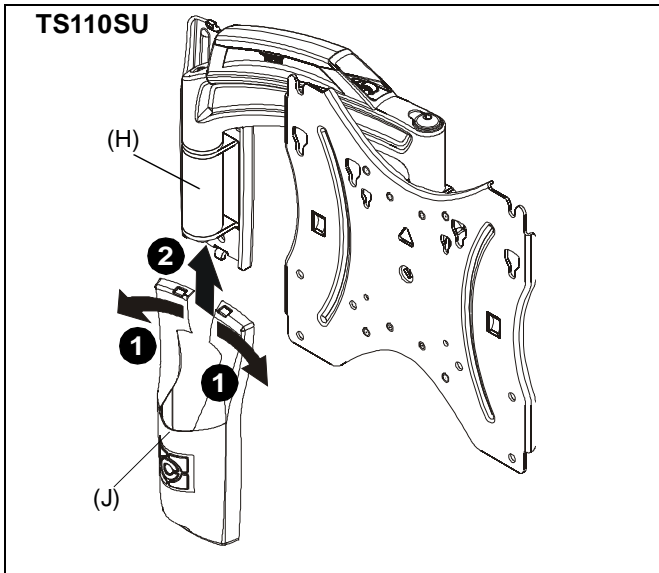
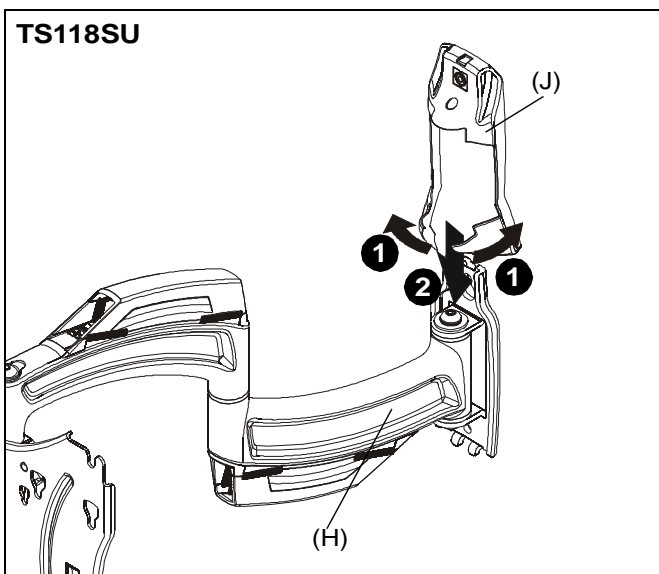

Figure 9
Figure 10
1. Pull apart top or bottom section of wall cover (J) so that it fits over the main assembly arm. For the TS110SU pull apart the top and for the TS118SU pull apart the bottom. (See Figure 9) or (See Figure 10)
2. Install wall cover (J) onto main assembly making sure holes on cover latch over tabs on main assembly. (See Figure 9) or (See Figure 10)